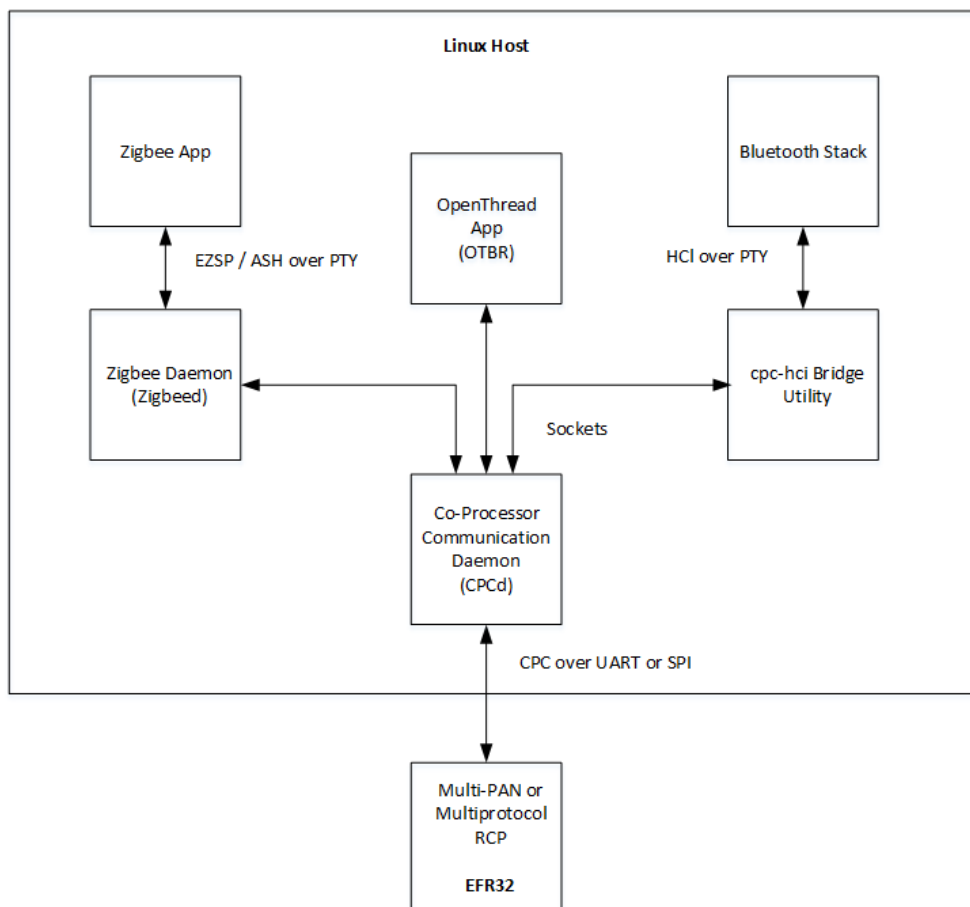

Figure 1-1. System Architecture for the Multiprotocol RCP
1. The multi-PAN 802.15.4 RCP is based on the OpenThread 802.15.4 RCP with added multi-PAN and CPC support. It has a small flash footprint (~150K) and uses the Spinel protocol to serialize commands. The Spinel messages are further encapsulated by the CPC protocol before being sent over the physical link. Both UART and SPI links are supported. This is illustrated in Figure 1-1. System Architecture for the Multiprotocol RCP (ignoring the Bluetooth components). The project files are **rcp-uart-802154.slcp** and **rcp-spi-802154.slcp**.
2. The multiprotocol RCP adds the Bluetooth Controller and FreeRTOS to the above 802.15.4 RCP. It has a larger flash footprint (~250k). HCI is used to serialize Bluetooth commands over CPC. Both UART and SPI links are supported. See Figure 1-1. System Architecture for the Multiprotocol RCP. The project files are **rcp-uart-802154-blehci.slcp** and **rcp-spi-802154-blehci.slcp**.